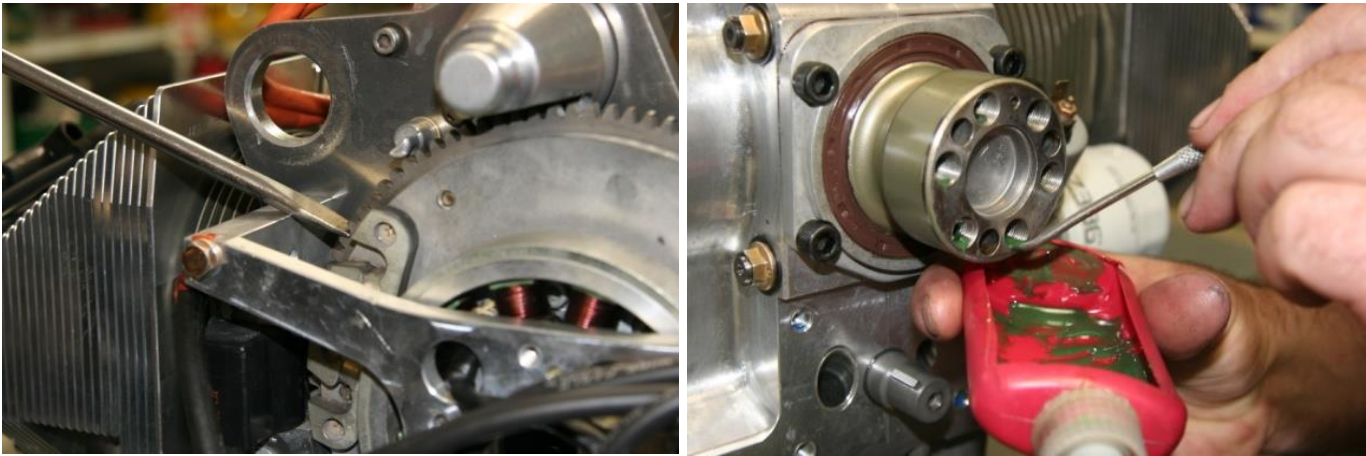

Figure 203 – Preparing To Fit Propeller Flange
- Fill the seal with high temperature grease or commercial seal lube and fit the housing to the engine as shown in Figure 203 (right). Note the orientation of the housing. Use 4 off 5/16” cap screws with Loctite 243 on the threads. Note that earlier engines used 1/4” screws. Either type assembly is acceptable.
Apply the same amount (approximately the size of a large match head) of Loctite 620 to the threads in the crankshaft. Apply the compound as shown in Figure 203: Use a scribe or small probe to apply the Loctite to the threads inside the crankshaft. Apply in the range 1 – 6mm from the front face of the crank.